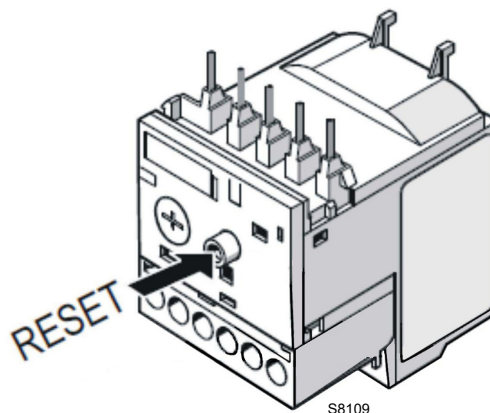

Fig. 40
- To reset, in the case of an intervention of the electronic relay, press the button **"RESET"** (Fig. 40).